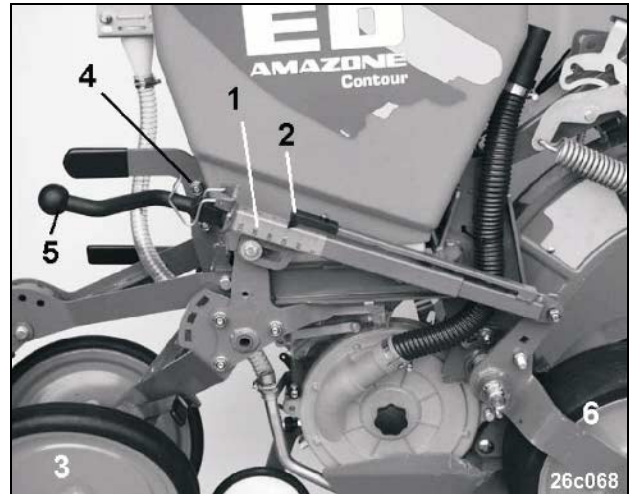

Fig. 79
The figures (0 to 100) on the scale (Fig. 79/1) represent the relevant placement depth. The placement depth setting is read off the reading edge (Fig. 79/2).
The placement depth is set via the pre-running pressure roller (Fig. 79/6) and the two following V-pressure rollers (as option 370 flexi roller) (Fig. 79/3). The placement depth is set via the setting spindle (Fig. 79/5) as follows:
- Swivel upwards the spring buckle (Fig. 79/4) to prevent the seed placement depth setting spindle from unintended turning.
- Turn the seed placement depth setting spindle (Fig. 79/5) and set the desired seed placement depth.
- Lower spring buckle (Fig. 79/4) to secure the seed placement setting.